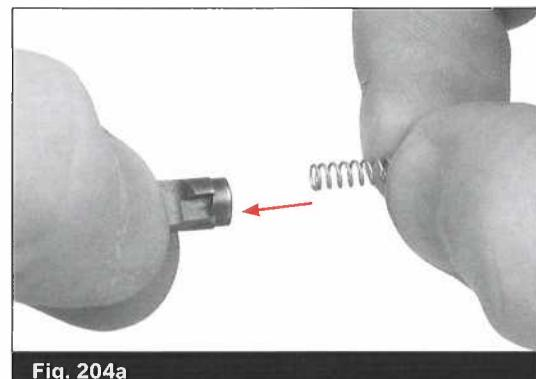

Fig. 204a
- If the spring should become separated from the safety, merely press either end back into its receptacle in the bottom of the safety. Compress the spring fully and turn it $\frac{1}{4}$ turn counter clockwise. When the spring is released, it should be reattached to the safety. If the spring is not firmly attached, it may fall into the recess and not provide proper spring tension to the safety. (Fig. 204a/204b)